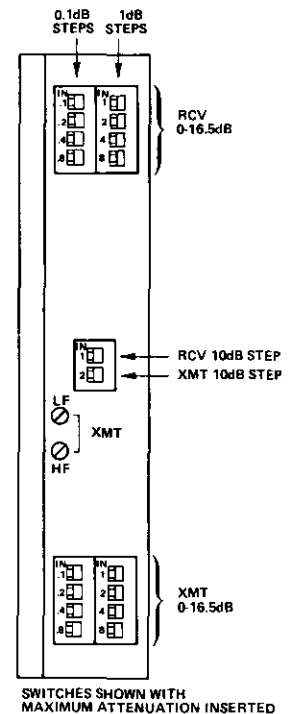

figure 2. 6944 front-panel controls
2.04 Adjustable attenuators in the transmit and receive paths provide for interfacing the -16 transmit and +7 receive facility-side TLP's with conventional terminal-side levels. From 0 to 26.5dB of loss may be introduced in 0.1dB increments via front-panel DIP switches (see figure 2). Total attenuation in either channel is the sum of that channel's switches set to the /N position.